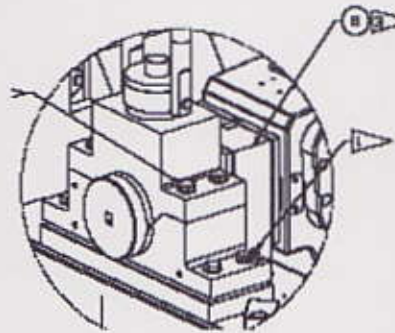

Figure 7
10. Remove the spacer block assemblies, SEG38117134-301, item 9 in Figure 7, by removing all fasteners in flag note 1. When the spacer block assemblies are out of the PSS, re-install the fasteners in flag note 1, and hand tight the fasteners.